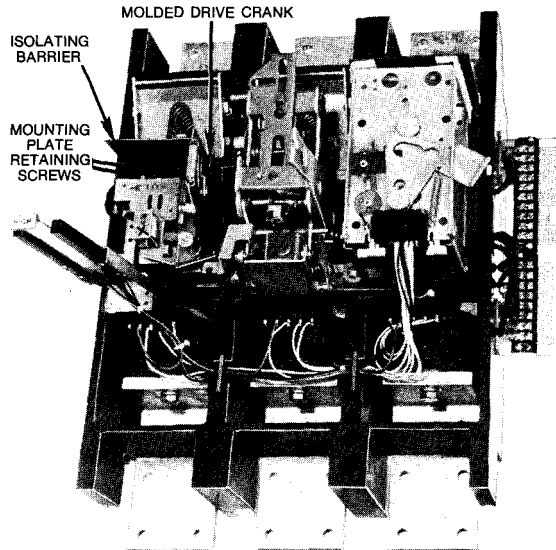

Figure 28.
1. Replace molded drive crank onto mechanism drive pin engaging roll pins into slot in drive crank. (See Fig. 28).
2. Place mounting plate in position so that its two (2) operating studs engage the molded drive crank, see Fig. 28. Be sure isolating barrier is in place.